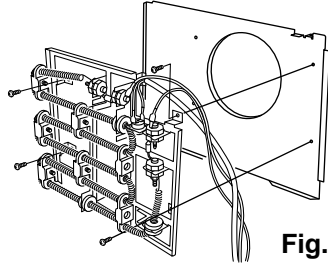

Fig. 10
(4) Remove the 4 screws holding the electric heater and take off the evaporator's casing plate. (Fig. 10)